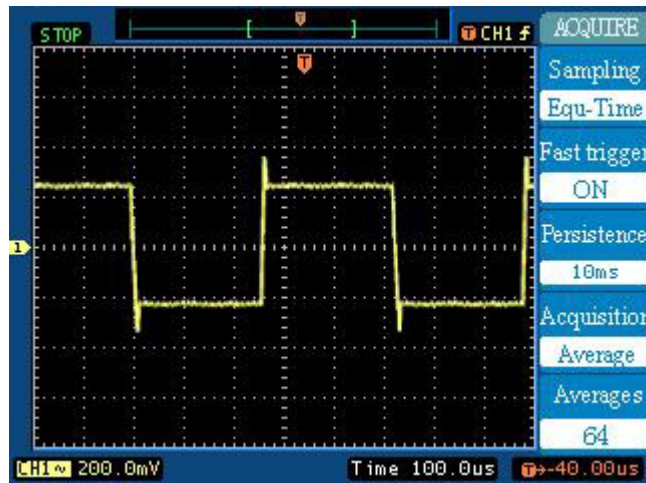

Figure 3-3
- Toggle the **Averages** softkey to select the number of averages that best eliminates the noise from the displayed waveform. The higher the number of averages, the more noise that is removed from the display. However, the higher the number of averages, the slower the displayed waveform responds to waveform changes. You need to choose between how quickly the waveform responds to changes and how much noise there is on the signal. (See Figure 3-3)